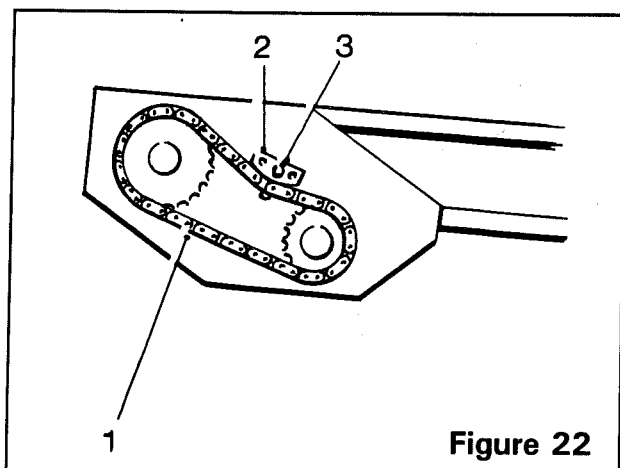

Figure 22
The picking table drive chain (item 1, figure 22) can be adjusted for tension by loosening the retaining bolt (item 2, figure 22) and sliding the tensioner block (item 3, figure 22) in the required direction. Finally, retighten the retaining bolt.